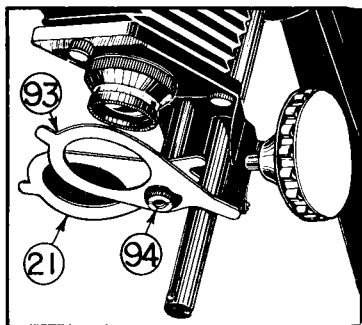

Figure 17
74. There is a threaded hole in the head of the screw (22) on which the red filter pivots, to which the Federal Filter Holder (93) is attached with the screw and washer (94). See Figures 17 and 1A. This